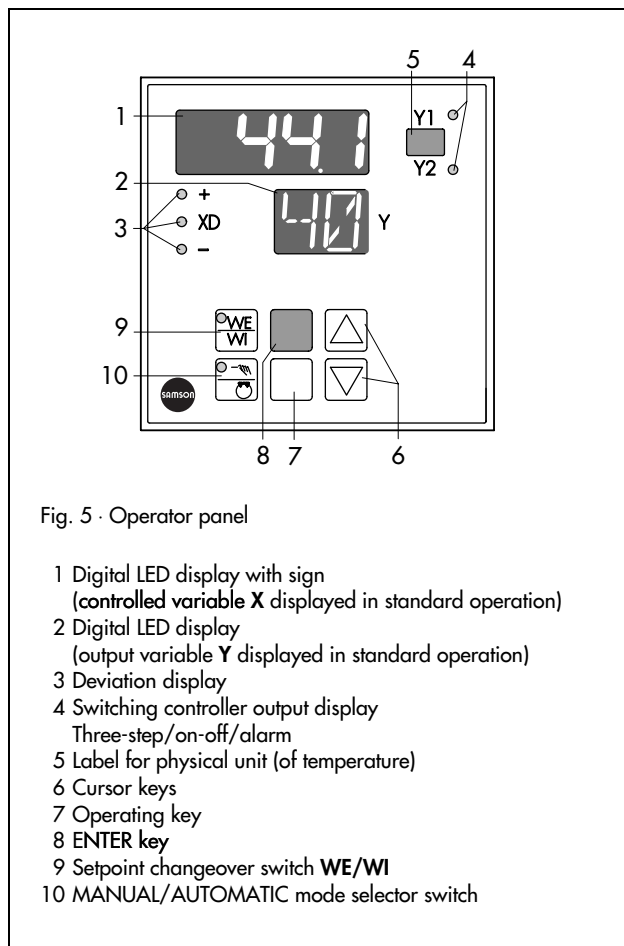

Fig. 5 · Operator panel
An external setpoint\*, WE, can be connected either by actuating the WE/WI changeover key (9 in Fig. 5), or by supplying an external signal at terminals 12 and 5 (connection diagram).